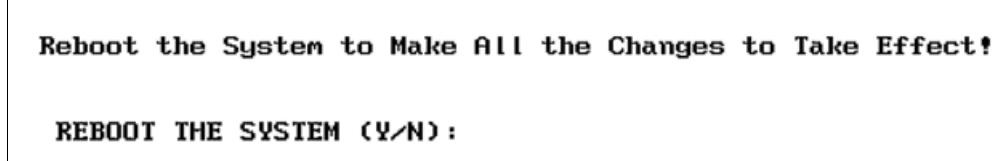

Figure 18-21 Reboot system confirmation panel
14. Press Y to reboot your system as shown in Figure 18-21.